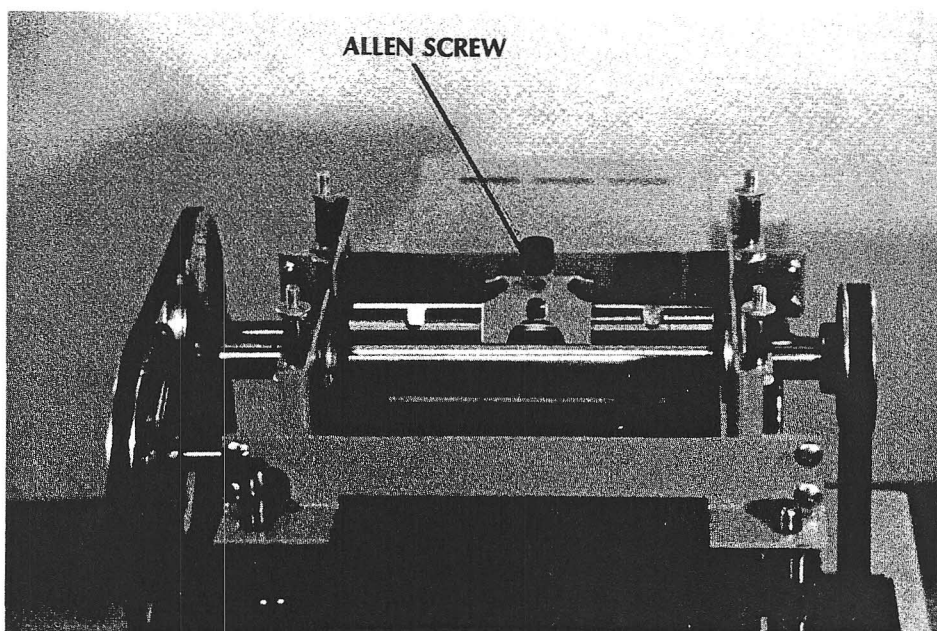

Fig. 7
5. Position knife gauge over the knife with the bottom of the plunger on the edge of the knife. (fig. 7)